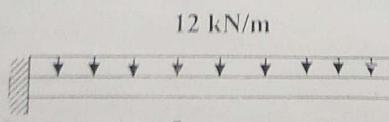

Fig. Q. 3(b)
- b) Compute the maximum deflection and rotation at the free end of the cantilever beam shown in figure Q. 3(b) by using Castigliano's theorem. Assume $E=200 \times 10^6 \text{ kN/m}^2$ and $I=100 \times 10^{-6} \text{ m}^4$.